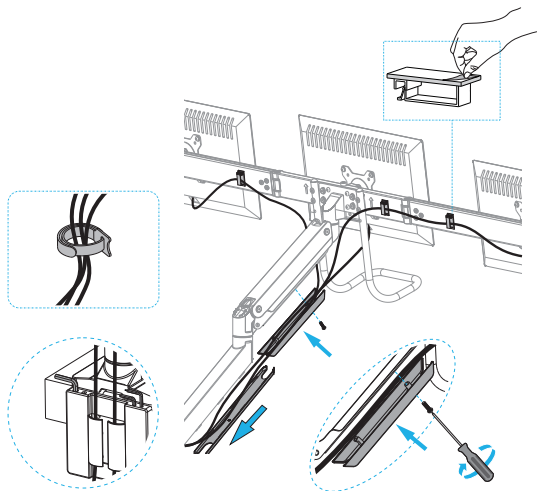

Figure 24
2. Remove the backing from the **Cable Management Clips** (x 6). Install the **Cable Management Clips** along the back of the **Crossbars**. Optionally, use the **Hook-and-Loop Straps (Crossbar)** to create cable bundles. (Figure 24)
4. Install the **Cable Management Covers** under the **Swivel** and **Spring Arms** as indicated by the **Arrows**. Use a **Phillips Head Screwdriver** to **Tighten** the **Screw** for the **Cable Management Cover** under the **Spring Arm**. (Figure 24)
5. Route the **Cable(s)** through the **Tool Holder**. (Figure 24)